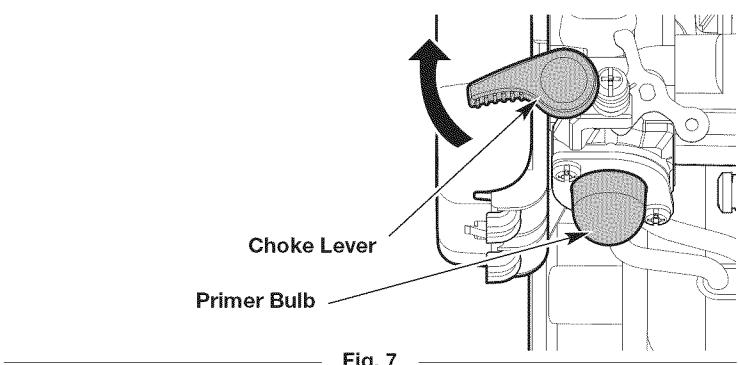

Fig. 7
3. Slowly press and release the primer bulb **10 times** (Fig. 7). If fuel cannot be seen in the primer bulb, press and release the primer bulb until fuel is visible.
5. **DO NOT** squeeze the throttle control. Flip the choke lever clockwise until it clicks (Fig. 7).